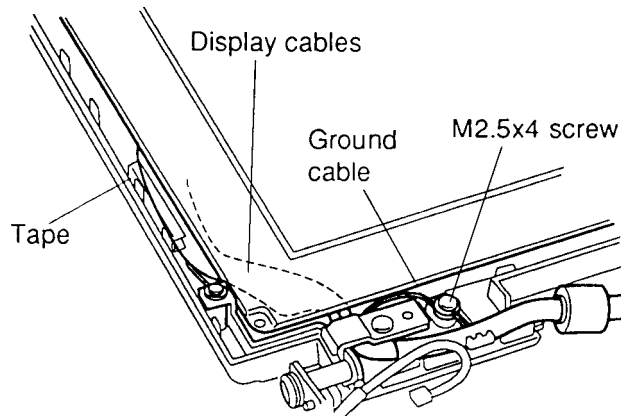

Figure 4-46 Routing the Display Cables
2. Place the module in the cover and route the cables so they will not be pinched by the display panel or other component and secure them with **tape** (Figure 4-46).
4. Secure the **ground cable** with **one M2.5x4 screw** (Figure 4-46).